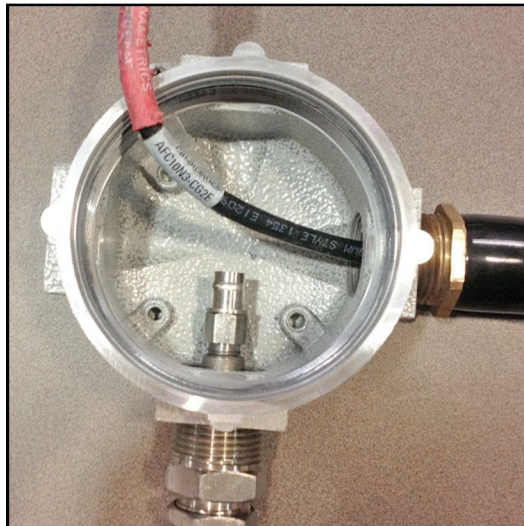

Figure 18: Assembled Transducer and Cable Gland
5. Verify that, with the transducer and the cable gland assembled, the junction box looks like Figure 18 below: